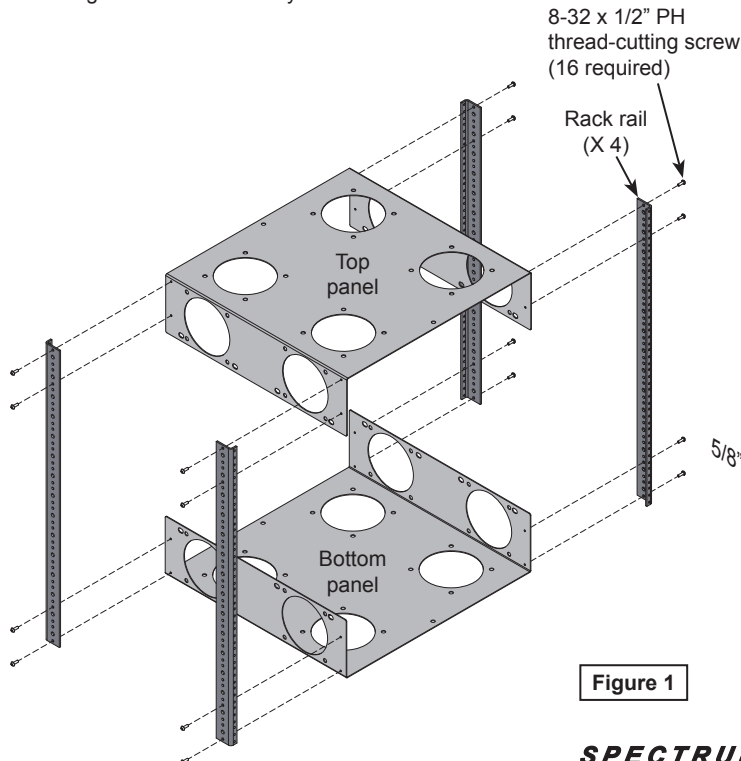

Figure 1
1. Assemble the cube top / bottom panels, and (4) rack rails using (16) 8-32 x 1/2" PH thread-cutting screws. Note the orientation of the rails. **Figure 1.**